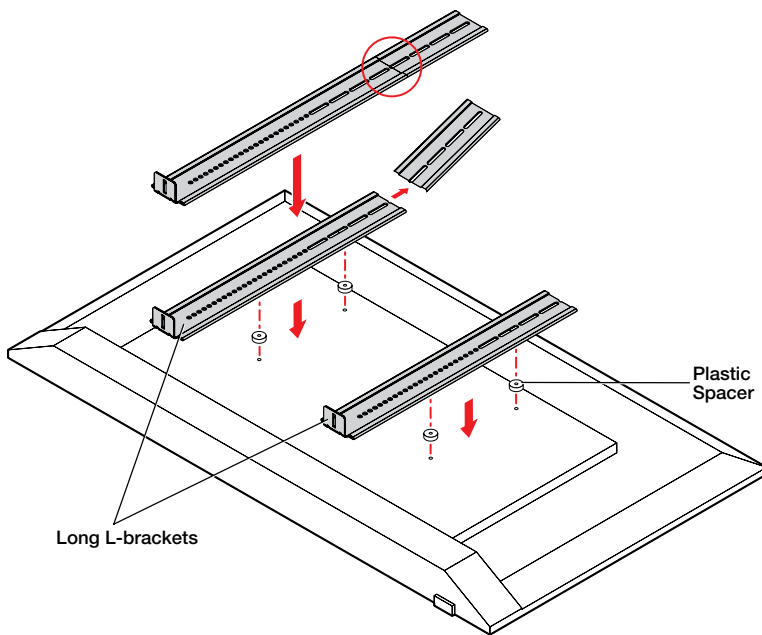

Figure 32. Positioning Long L-brackets on Display
1. Install the wall mount portion of the VESA display mount onto the desired wall location (see figure 32 on the following page).
3. Repeat this procedure for the other long L-bracket on the other side of the display. Use the included plastic spacers if any portion of the display back protrudes further than the VESA mounting points and prevents the brackets from being seated properly (see figure 32 on page 22).
5. Insert the bolts through the VESA display mounts, the long L-brackets, and the display. Be sure to align the bolt holes of the VESA display mounting holes and insert the bolts. Hand tighten all 4 bolts. Spacers are provided if needed (see figure 32).